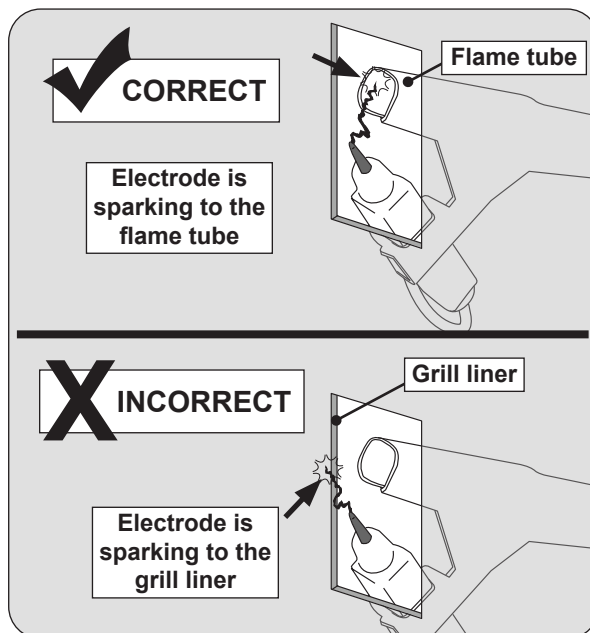

Fig. 2-4 Electrode spark- CORRECT vs INCORRECT
12. **Test the electrode spark for proper ignition:** When the manifold is installed, ensure the electrodes on ALL valves are sparking to the flame tubes of the valve assemblies, NOT the grill liner. To test this, reinstall the control knobs to their corresponding valve stems (with the control panel removed). Test the ignition by pushing in and turning the control knob. If the electrode is sparking to the grill liner, adjustment of the manifold positioning or manually adjusting the flame tube will be needed until the flame tube and electrode is as centered as possible to the liner cutout. Carefully adjust the tube with your hand or with a tool and retest the ignition until the electrode is sparking to the flame tube. See Fig. 2-4.